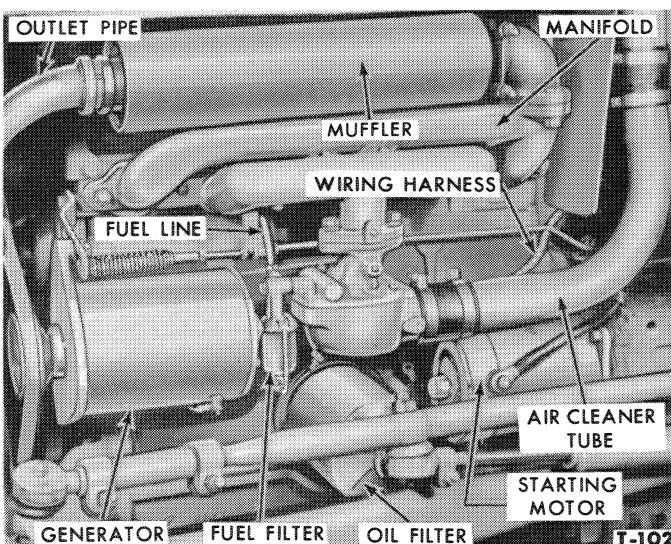

Figure 3—Left Side of Engine
**Gasoline Engine:** Turn the fuel tank shut-off valve clockwise as far as possible to close it. Disconnect the fuel line at the fuel filter, see Figure 3. Remove the bolts that attach the fuel tank support brackets to the cylinder block. Remove the one nut that attaches the fuel tank front support bracket to the cylinder block. With an assistant, carefully lift the fuel tank and brackets from the tractor.
**Gasoline Engine:** Turn the fuel tank shut-off valve clockwise as far as possible to close it. Disconnect the fuel line at the fuel filter, see Figure 3. Remove the bolts that attach the fuel tank support bracket to the cylinder block. Remove the one nut that attaches the fuel tank front support bracket to the cylinder block. With an assistant, carefully lift the fuel tank and support brackets from the tractor.
3. Secure the engine to the transmission with two bolts at each side of the housing. Install the muffler and outlet pipe in place on the manifold, see Figure 3.
7. Position the wiring harness, see Figure 3, in the attaching clips on the cylinder block and connect the three wires to the generator.